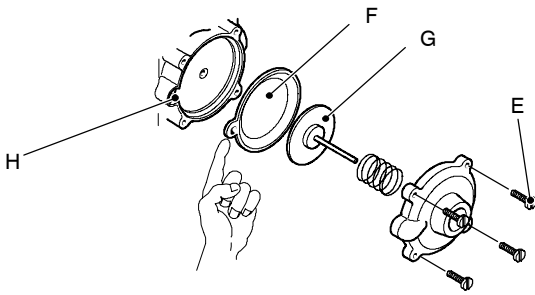

Fig. 5
- 3 Unscrew the four screws E (see Fig. 5) open the hydraulic operator and remove the membrane F.
When assembling the membrane, ensure that its concave side faces towards the actuator plate G and the reference indicated aligns with the seat H (see Fig. 5).